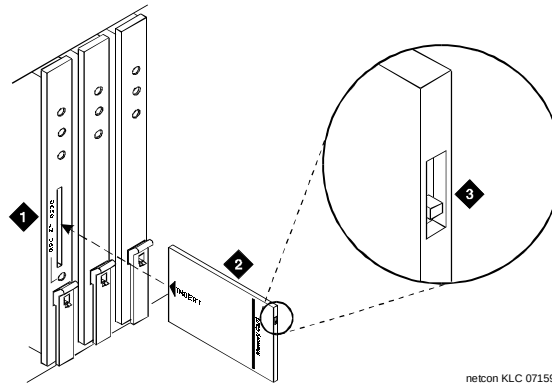

Figure 4-3. Translation Card
3. Insert the new R5 formatted translation card. Verify that the switch on the outside edge of the R5 translation card is in the down position to record (see Figure 4-3).